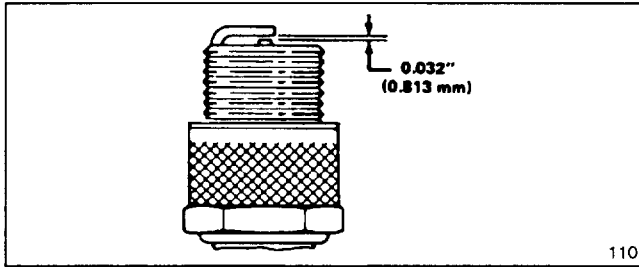

Figure 17
3. Set air gap at 0.032" (0.81 mm) (Fig. 17). Install correctly gapped spark plug and gasket seal. Tighten plug firmly to 10 ft-lb (13.6 N·m).